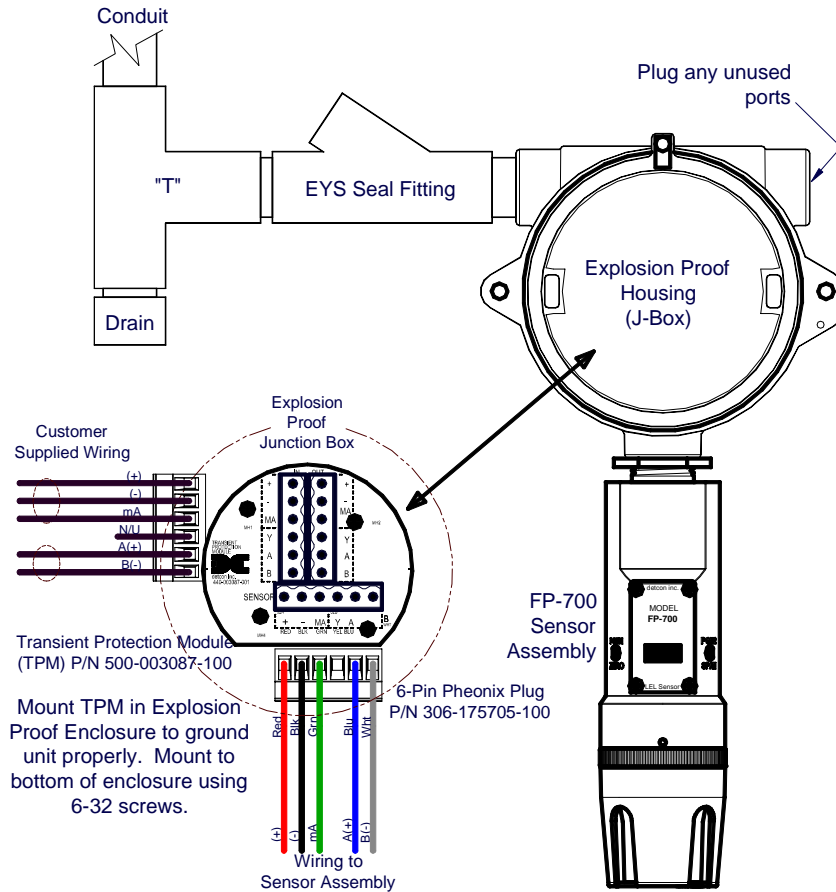
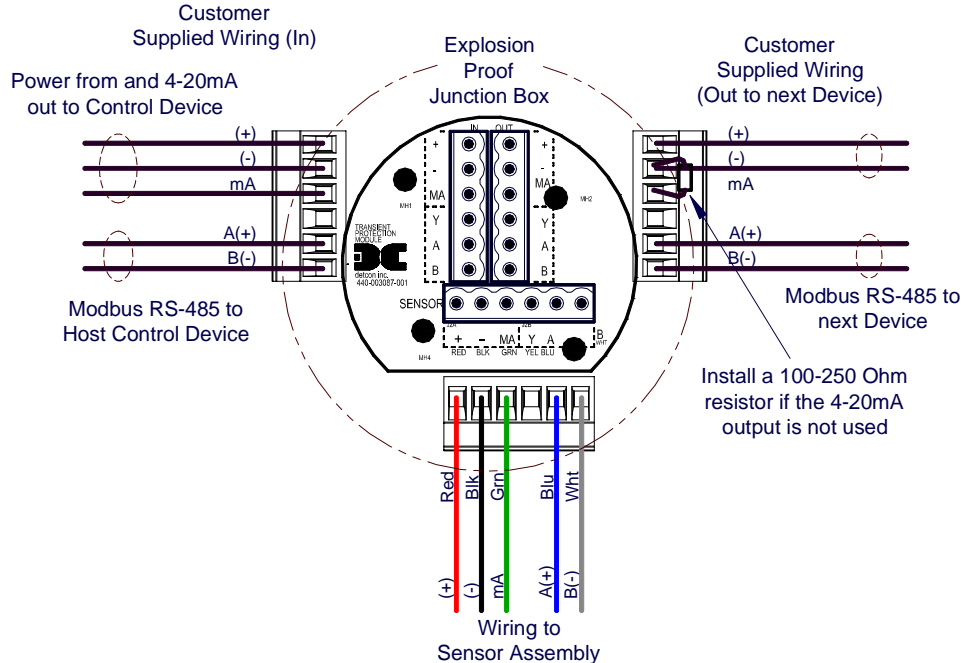

Figure 10 Typical Installation
Figure 11 Sensor Wire Connections
NOTE: In all installations the gas sensor should point straight down, refer to Figure 10. Improper sensor orientation may result in false readings and permanent sensor damage.
Proper electrical installation of the gas sensor is critical for conformance to Electrical Codes and to avoid damage due to water leakage. Refer to Figure 10 and Figure 11 for proper electrical installation.
NOTE: If a conduit run exits the secondary port, repeat the installation technique shown in Figure 10.
In Figure 10, the drain allows H₂O condensation inside the conduit run to safely drain away from the sensor assembly. The electrical seal fitting is required to meet the National Electrical Code per NEC Article 500-3d (or Canadian Electrical Code Handbook Part 1 Section 18-154). Requirements for locations of electrical seals are covered under NEC Article 501-5. Electrical seals also act as a secondary seal to prevent water from entering the wiring terminal enclosure. However, they are not designed to provide an absolute water-tight seal, especially when used in the vertical orientation.
- Observing correct polarity, terminate the 3-conductor 4-20mA field wiring (+, -, mA) to the sensor assembly wiring in accordance with the detail shown in Figure 11. If the 4-20mA output is not used, the green wire from the sensor must be connected to the (-) terminal on the Transient Protection Module.
- a) If applicable, terminate the RS-485 serial wiring as shown in Figure 11. Use the second plug (Out) as termination point on the customer side to facilitate a continuous RS-485 serial loop